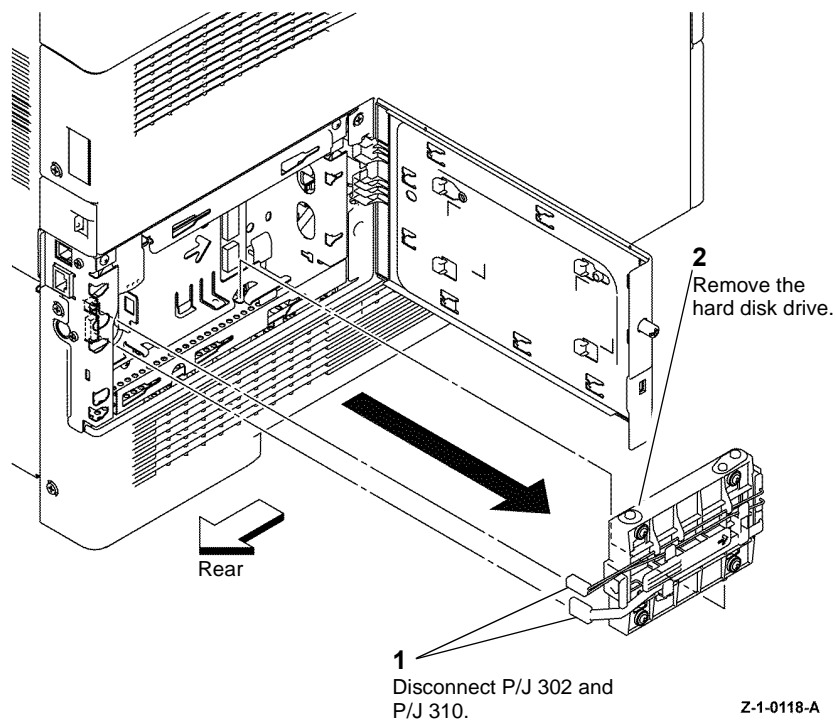

Figure 1 Hard disk drive
2. Remove the hard disk drive, Figure 1.